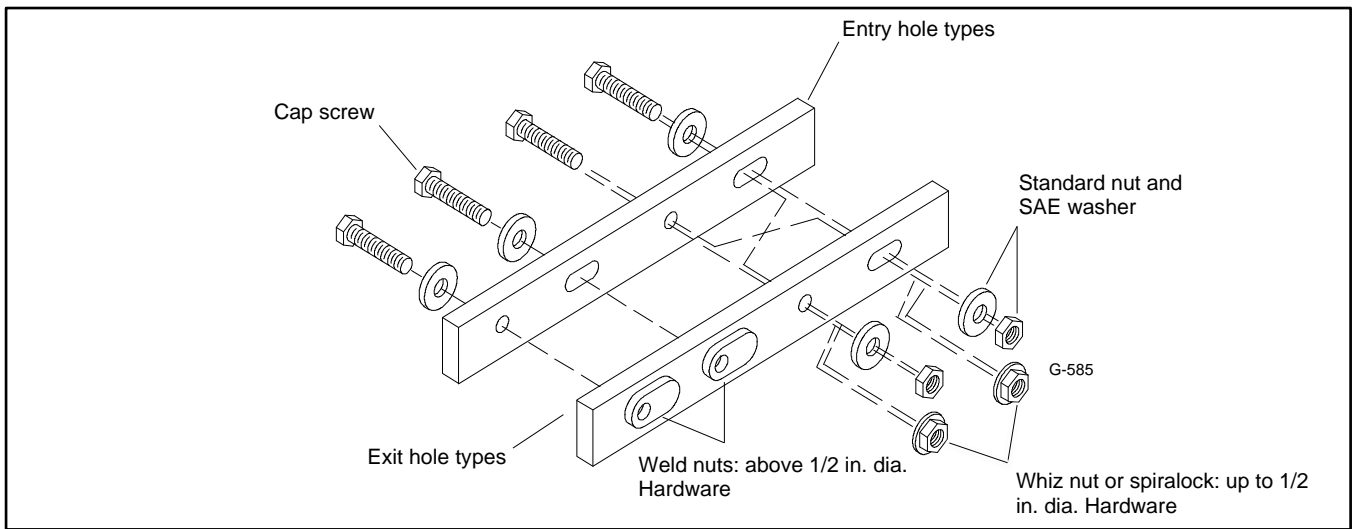

Figure 162 Acceptable Hardware Combinations
3. For round and slotted exit holes, determine if hardware is greater than 1/2 inch in diameter, or 1/2 inch in diameter or less. Hardware that is greater than 1/2 inch in diameter takes a standard nut and SAE washer. Hardware 1/2 inch or less in diameter can take a properly torqued whiz nut or spirallock nut. See Figure 162.
5. Refer to Figure 162, which depicts the preceding hardware configuration possibilities.